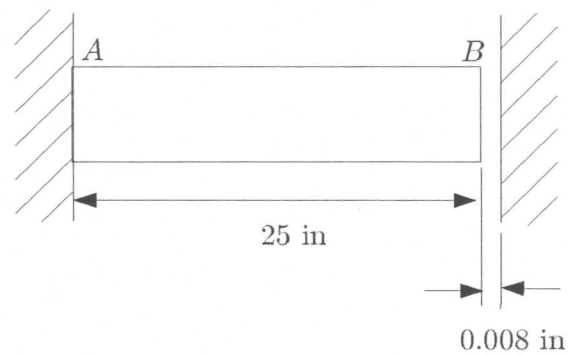

Figure 4.
4. A copper bar AB with the length of 25 in is placed in position between walls. At room temperature  $76^\circ\text{F}$ , end A is rigidly bonded to the wall and there is gap of 0.008 in. between end B and wall as shown in Figure 4.